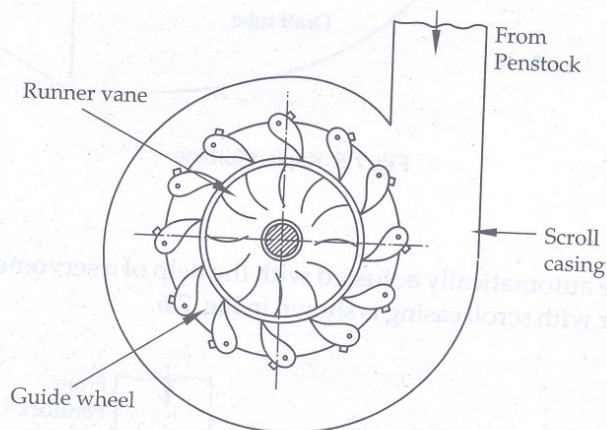

Fig. 7.4 Runner with scroll casing
(5) **Runner:** The runner of Francis turbine is a circular wheel on which a series of radial curved vanes are fixed. The radial curved vanes are so shaped that the water enters and leaves the runner without shock. The number of runner blades varies between 16 to 24. The runner is keyed to the shaft which is coupled to the generator shaft. A runner with the scroll casing is shown in Fig. 7.4.